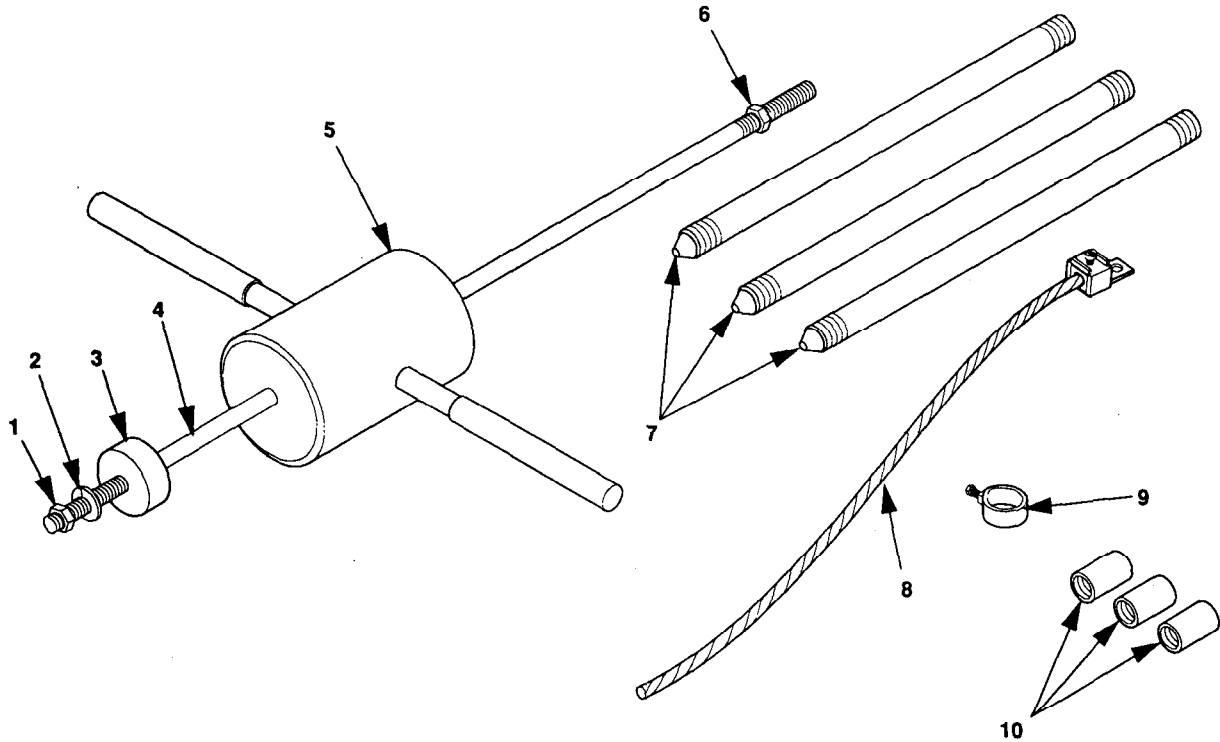
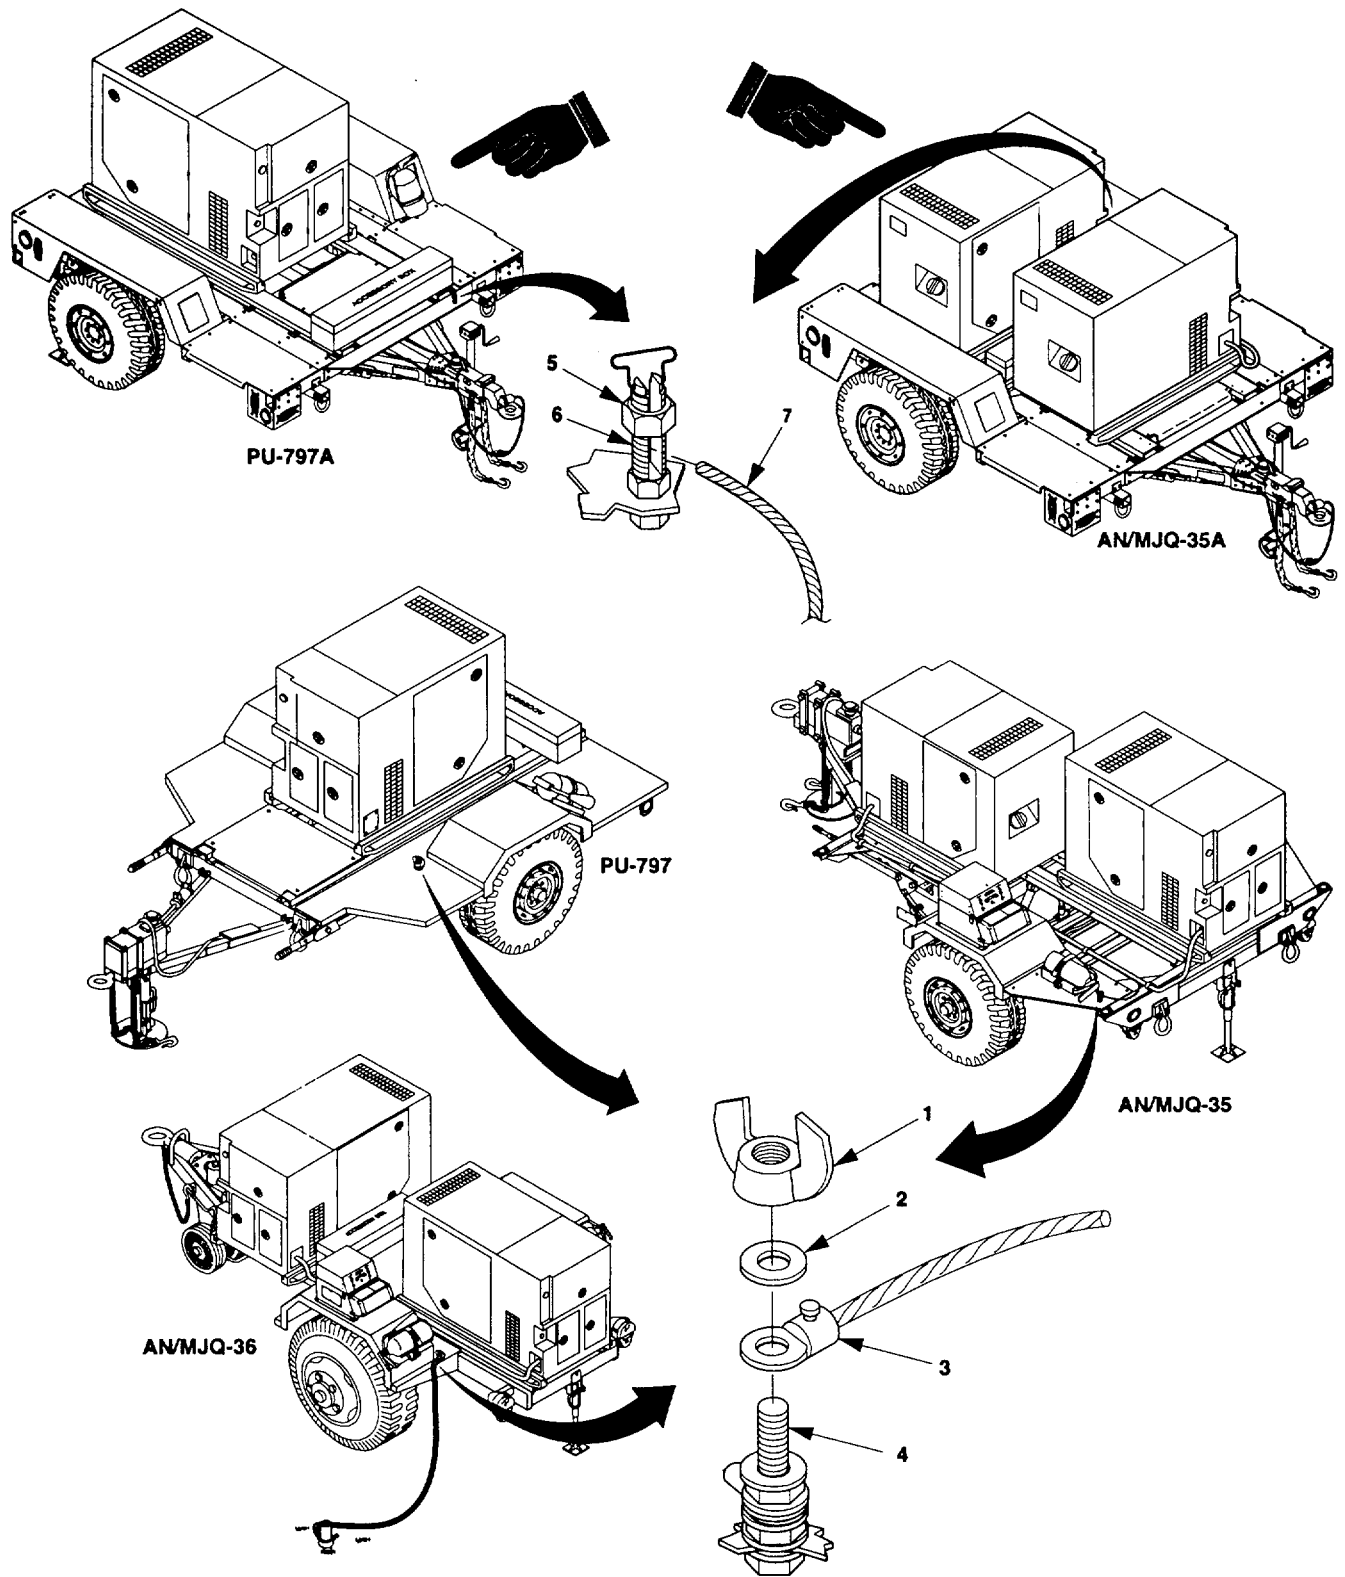

Figure 2-7. Ground Rod and Slide Hammer.
Figure 2-8. Power Plant and Power Unit Ground Connections.
**2-3.3 Grounding of Generator Set.** Ground the equipment in accordance with Army Field Manual FM 20-31. Typical ground rod installations are shown in figure 2-8. If a ground rod is used, install and connect it as follows:
- a. Remove ground rod, grounding strap, and slide hammer (figure 2-7) from accessory box. Perform assembly steps (1) through (4).
- (1) If the high mobility trailer (AN/MJQ-35A or PU-797A) is being used, perform steps (5) and (6). Otherwise perform steps (2) through (4).
- (2) Remove and retain wing nut (1, figure 2-8) and flat washer (2) from trailer ground stud (4) and install ground cable terminal lug (3) to ground stud (4).
- (3) Install flat washer (2) on ground stud (4).
- (4) Install wing nut (1) on the ground stud (4) and tighten.
- (5) Loosen nut (5) on high mobility trailer ground terminal (6).
- (6) Insert wire (7) through slot of ground terminal (6) and tighten nut (5).
- i. Disassemble slide hammer as follows: (1) Remove nut (6, figure 2-7) from end of rod (4) and retain.
- (2) Remove hammer (5) from rod (4) and thread nut (6) on end of rod to prevent loss.
- (3) Store hammer (5) and rod (4) with assembled parts in accessory box.